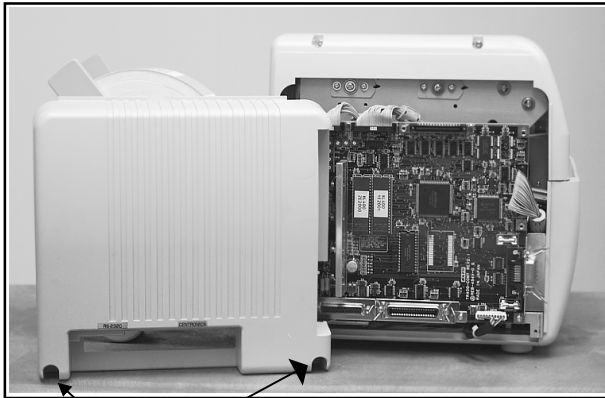

Fig. 6-10
2.	Remove (2) screws holding the LH cover to the printer base and (4) screws holding the power supply cover. Fig.6-10 & 6-11